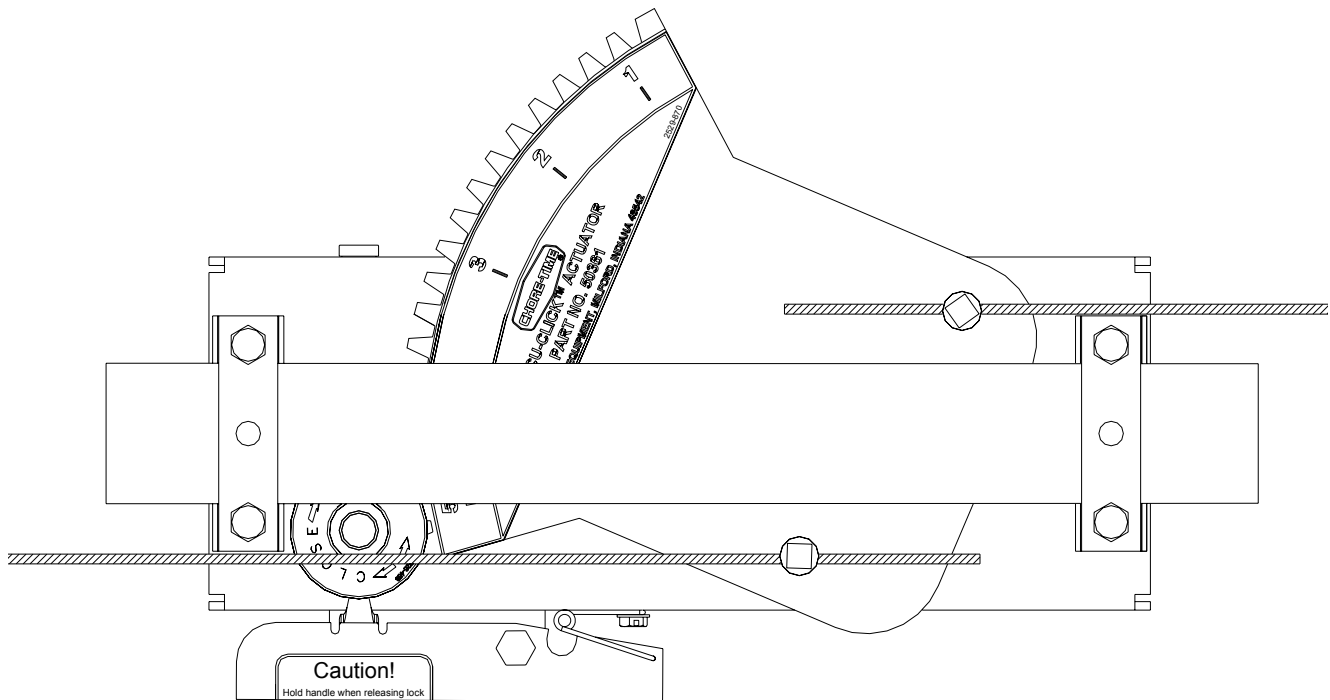

Figure 52. Actuator in Fully Open Brood Position
1. Once all actuators are installed operate actuators to the fully open brood position, **see figure 52.**